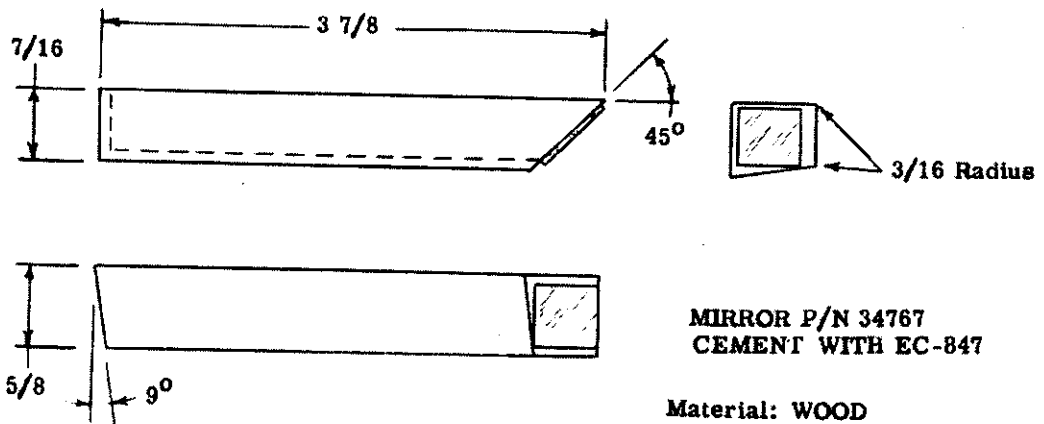

Figure 2. LAMP ALIGNING BLOCK
b. Lamp aligning block (figure 2), used to simplify focusing of Rangelite.